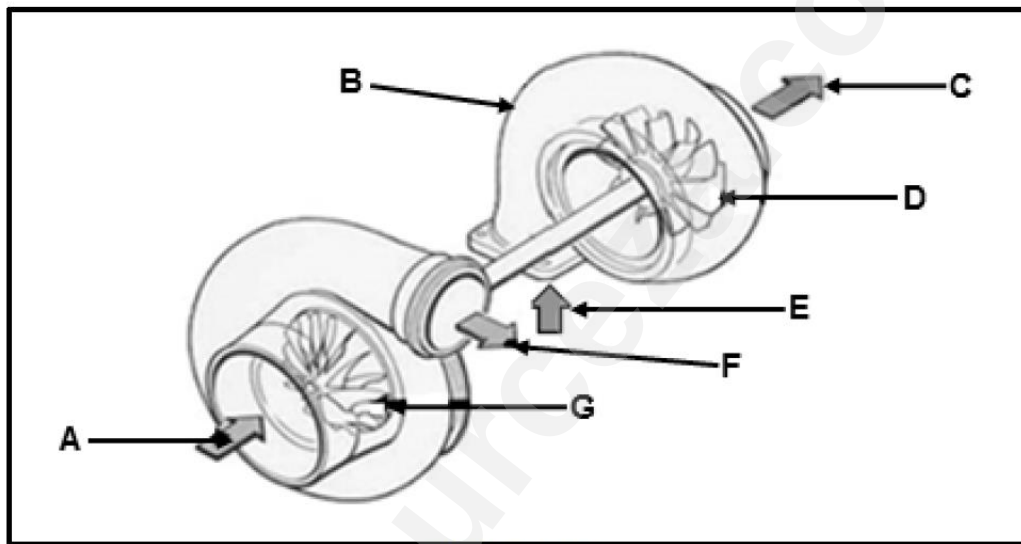

FIGURE 6.5
6.5 A turbocharger is shown in FIGURE 6.5 below. Answer the questions that follow.